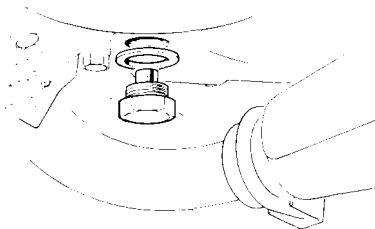

Figure 42 Draining the Gearbox.
3. Place a 1 1/2 litre (min) open receptacle beneath the gearbox drain plug and remove the plug. (fig 42)